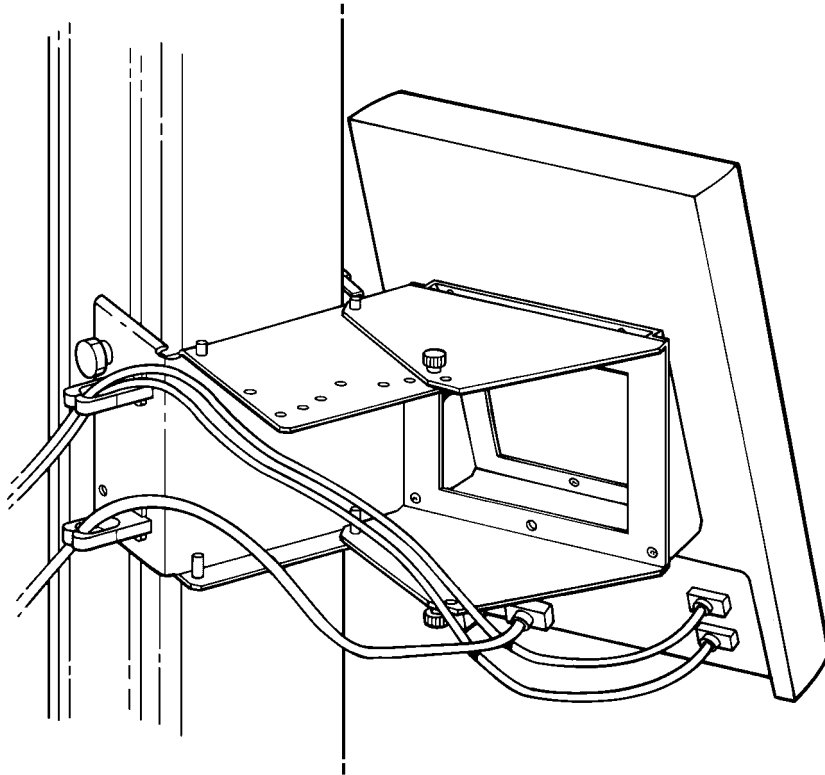

Figure 3-2. Rear Panel Cable Arrangement
- (c) When all cables have been connected, dress the cables into the cable clips provided on the console mounting bracket, as shown in Figure 3-2. This will ensure that the cables will not catch on the load frame, grips, or testing fixtures while the crosshead is moving.